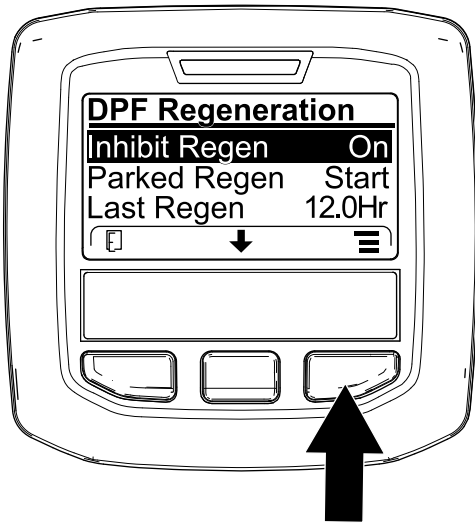
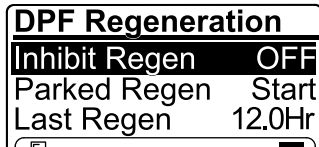

Figure 76
Figure 77
1. Access the DPF Regeneration menu, press the center button to scroll down to the INHIBIT REGEN option, and press the right button to select the Inhibit Regen entry (Figure 76).
- Press the right button to change the inhibit regeneration setting from On to Off (Figure 76) or from Off to On (Figure 77).